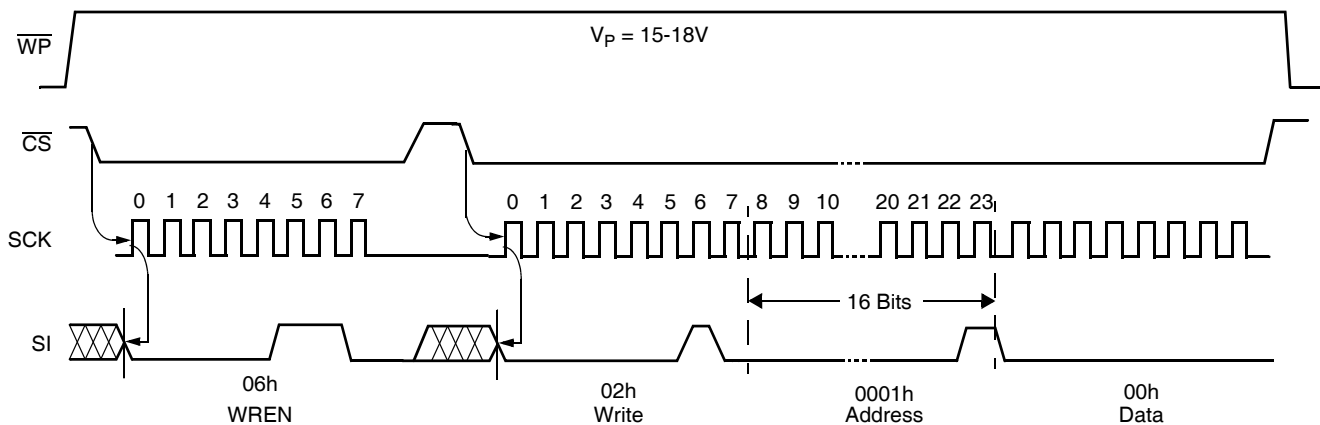

FIGURE 1. SET V_{TRIP} LEVEL SEQUENCE ($V_{\text{CC}} = \text{DESIRED } V_{\text{TRIP}} \text{ VALUE}$)
0000 0001	<p>Write status instruction—followed by: Block lock/WDT byte: (See Figure 1) 000WD₁ WD₂000 --->no block lock: 00h-00h--->none of the array 000WD₁ WD₂001 --->block lock Q1: 0000h-00FFh--->lower quadrant (Q1) 000WD₁ WD₂010 --->block lock Q2: 0100h-01FFh--->Q2 000WD₁ WD₂011 --->block lock Q3: 0200h-02FFh--->Q3 000WD₁ WD₂100 --->block lock Q4: 0300h-03FFh--->upper quadrant (Q4) 000WD₁ WD₂101 --->block lock H1: 0000h-01FFh--->lower half of the array (H1) 000WD₁ WD₂110 --->block lock P0: 0000h-000Fh--->lower page (P0) 000WD₁ WD₂111 --->block lock Pn: 03F0h-03FFh--->upper page (PN)</p>